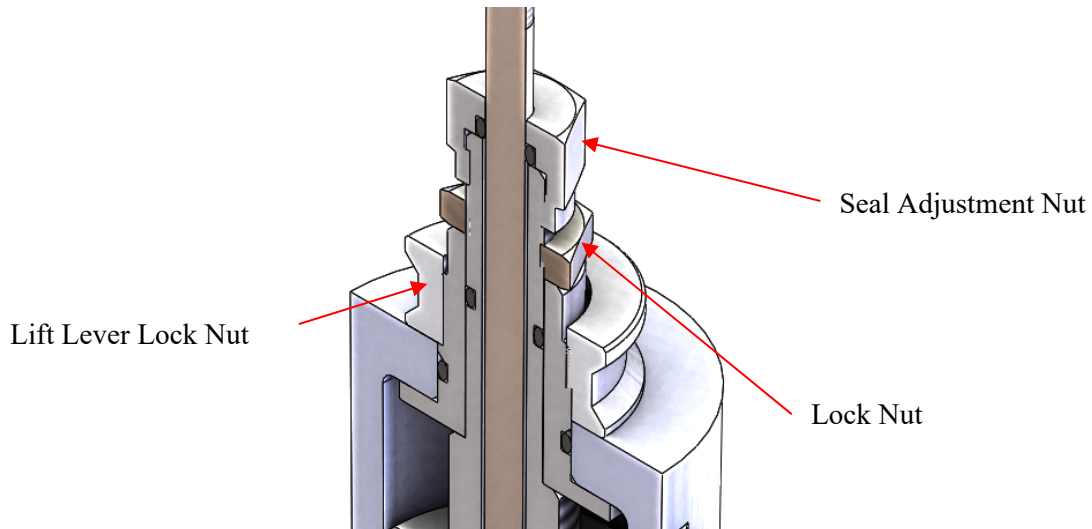

Figure 45: Removed Lift Lever Cap
8. Unscrew and remove the seal adjustment nut. See Figure 45.